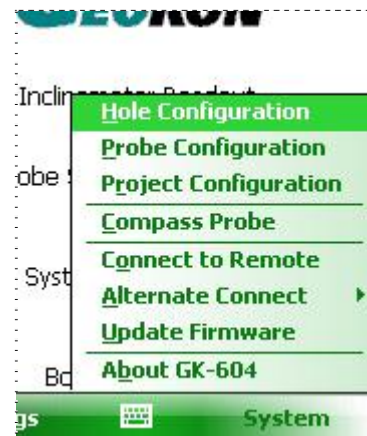

Figure 4 - System Menu
- Select the “System” option and “Connect to Remote” again (if no previous connection, assumes COM5 has been set up as an outgoing port in the Bluetooth Settings Manager) or select the “Alternate Connect” option (see figure 4) and pick the COM port previously established in section 2.1.